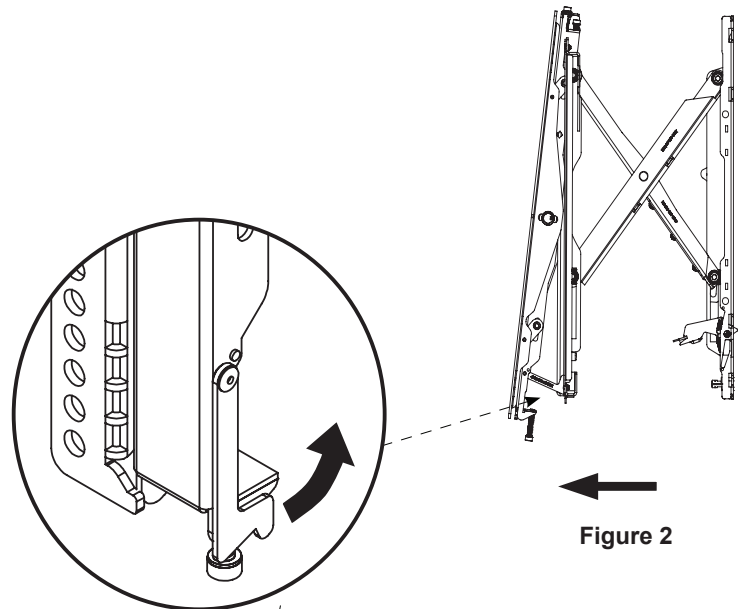

Figure 2
- 2) Slowly pull the front of the mount to extend the scissor arms (Figure 2).
- 4) Tilt up the bottom of the flat-panel, then set their kickstands against the bottom tubing of the mount (Figures 2 & 3).